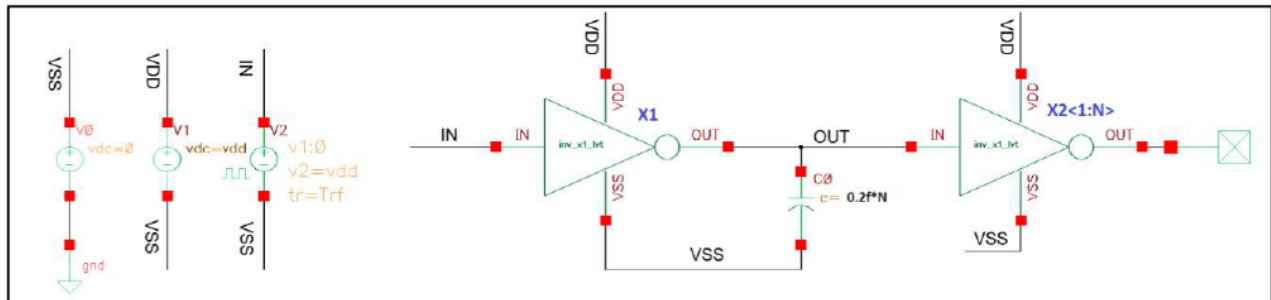

Figure 18. Testbench tran analysis of INV with fanout N
- Assemble the circuit as shown in **Figure 18**, setting parameters for power supplies (using *vpulse* source), with $L_n = L_p = 45nm$, $vdd = 1.0V$, W_N , W_P in **Experiment 1**.